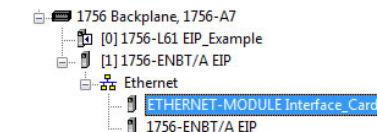

Figure 44: Online Module Status
- 22) Switch to online mode and download the project to the PLC. Verify that the newly-added inverter is available and operating correctly by observing any indications shown on the inverter's icon. When the inverter's icon is selected, its status and any available error messages will be displayed in the area below the project tree. Refer to Figure 44. Also confirm that the interface card's "Network Status" LED should be solid green, indicating an "online/connected" state.